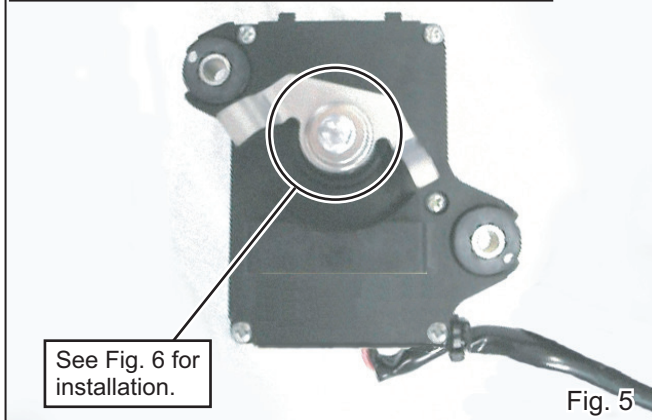

Fig. 5
- 7) Mount Exhaust Control Valve Cancellor Bracket on exhaust valve motor with Aluminum Spacer 12-20-7, Washer M12, Washer M5 and stock bolt removed from motor pulley at step 6) (See Fig. 5 & 6). Tighten and torque the bolt.